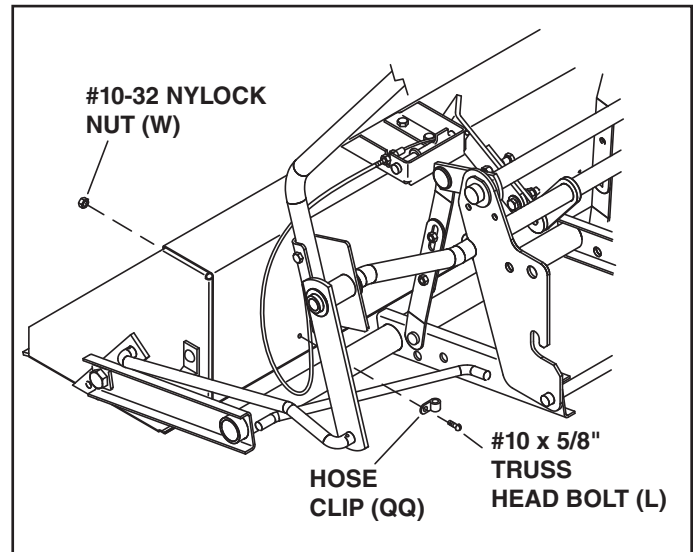

FIGURE 17
STEP 18: INSTALL HOSE CLIP AND SPACER (SEE FIGURE 17)
- Secure the dump cable to the back of the bucket using a hose clip (QQ), a #10 x 5/8" truss-head bolt (L) and a #10-32 nylock nut (W).